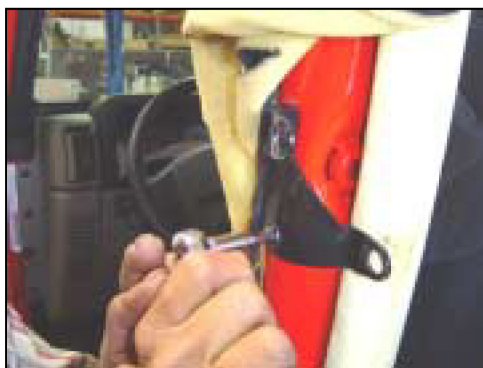

Figure 6
6. Locate driver side Bow Assembly Bracket (**T**) and (2) M6 x 25mm Torx Screws (**B**). Unzip side center roll bar cover and mount Bracket by using the hardware listed in this step (Figure 6). **NOTE:** Slits on the roll bar cover should match Bracket. Close zipper once the bracket is attached to roll bar.